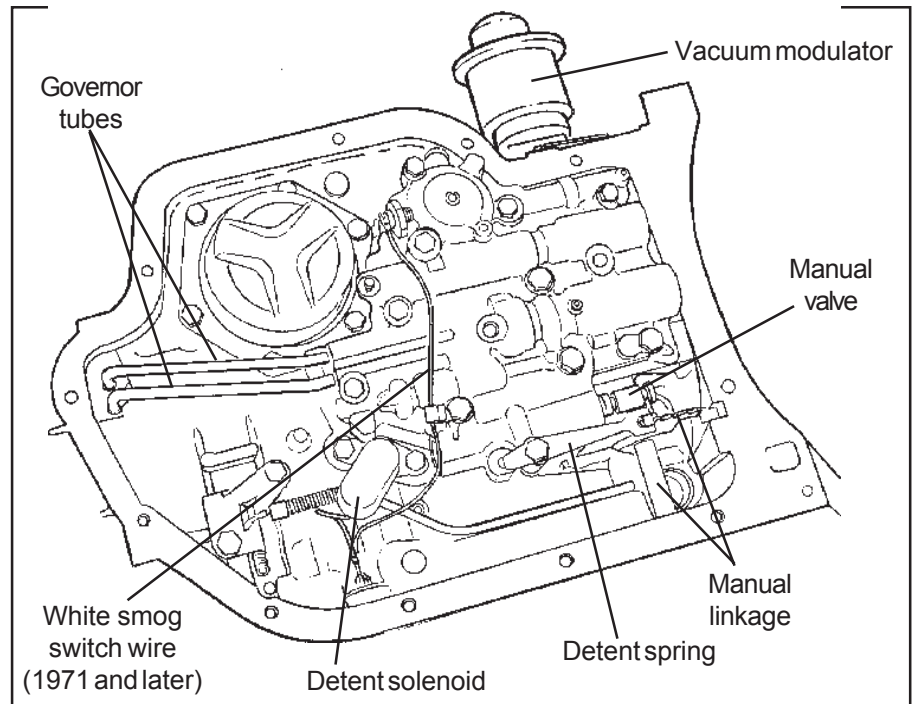

Figure 5
STEP 3. Observe the location of the following (**See Fig. 5**) Manual linkage, detent spring with roller and the way linkage engages the manual valve in the valve body, governor tubes and their
STEP 13. Install all the valve body bolts **finger tight**. Make sure the detent spring is in position and riding on the internal shift lever (**See fig. 5**). Make sure the manual valve is engaged with the pin on the internal shift lever. Tighten all valve body and solenoid bolts to 8-10 lb.ft. (11-13.6 Nm). Route the white spark control wire and connect to pressure switch on valve body. Check operation of manual valve by running range selector through all gear positions.